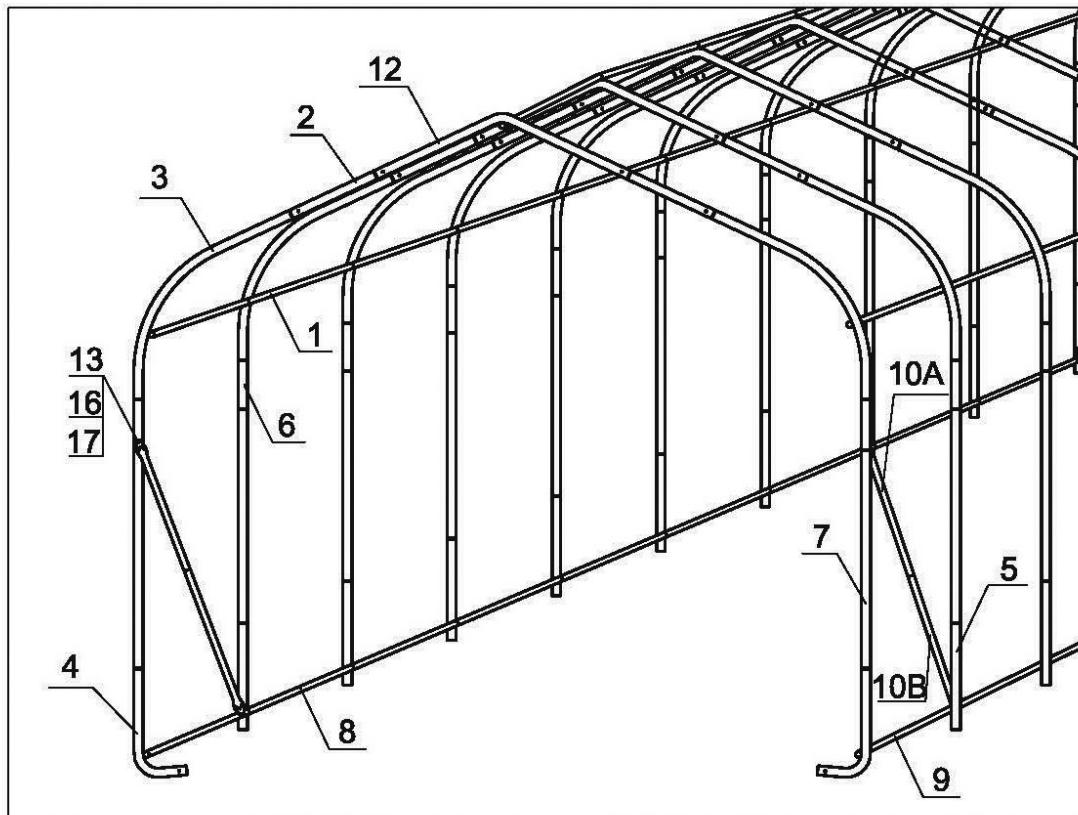

Figure 2
- At the base of that same End Bow, attach (8) to the base of (4). Swing the end of (10a+b) over to the connection of (5) and the end of (8). The tapered end of each (8) fits into the next (8). Use bolts (13), washers (17), and nuts (16) for this end of (10a+b) also. Do not completely tighten at this time because minor frame adjustments will be done later. Repeat these steps on the opposite end of the End Bow. Continue assembling (8) between all of Middle Bows until the final Middle Bow, using hardware listed below. See Figures 2 & 3.
- Bolt all connections with bolts (14) and nuts (16) unless otherwise indicated. All nuts need to be on the inside of the frame.